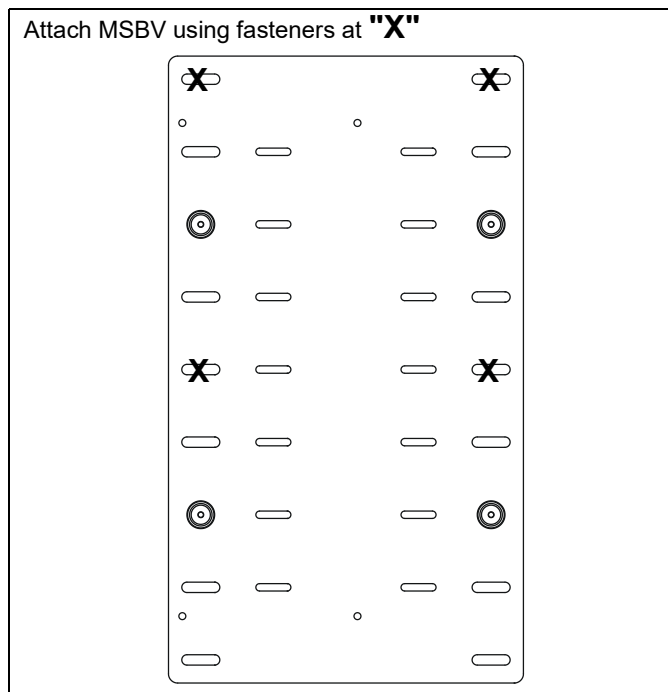

Figure 8
3. If 200 x 200mm hole pattern is shifted high on the screen, attach the MSBV bracket (A) vertically with four M5 or M6 screws (Bag B or Bag C). (See Figure 8)